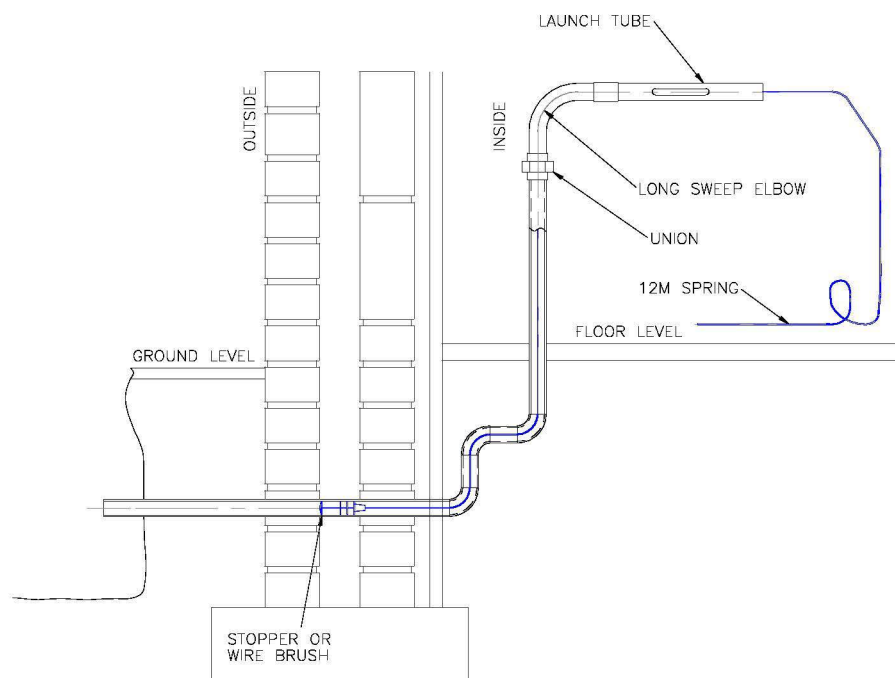

Figure B5 - Spring attached to stopper/wire brush
7. There should be at least 1 metre of pipe, which can be cut back following satisfactory inspection, to enable the service head adaptor to be fitted (Figure B5).
3. Fit union with long sweep elbow and launch tube at the service entry end (Figure B5).
5. Fit the stopper to the 12m spring. (Figure B5).
7. Fit elbow wire brush to the end of the 12m spring and clean the service (Figure B5).